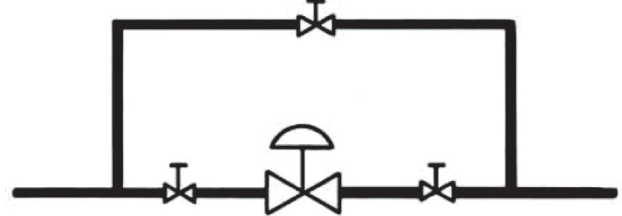

Figure 2
- 3.2 To allow for in-line inspection, maintenance and removal of the valve without service interruption, provide a manually operated stop valve on each side of the 10000 Series valve with a manually operated throttling valve mounted in the bypass line (See Figure 2).